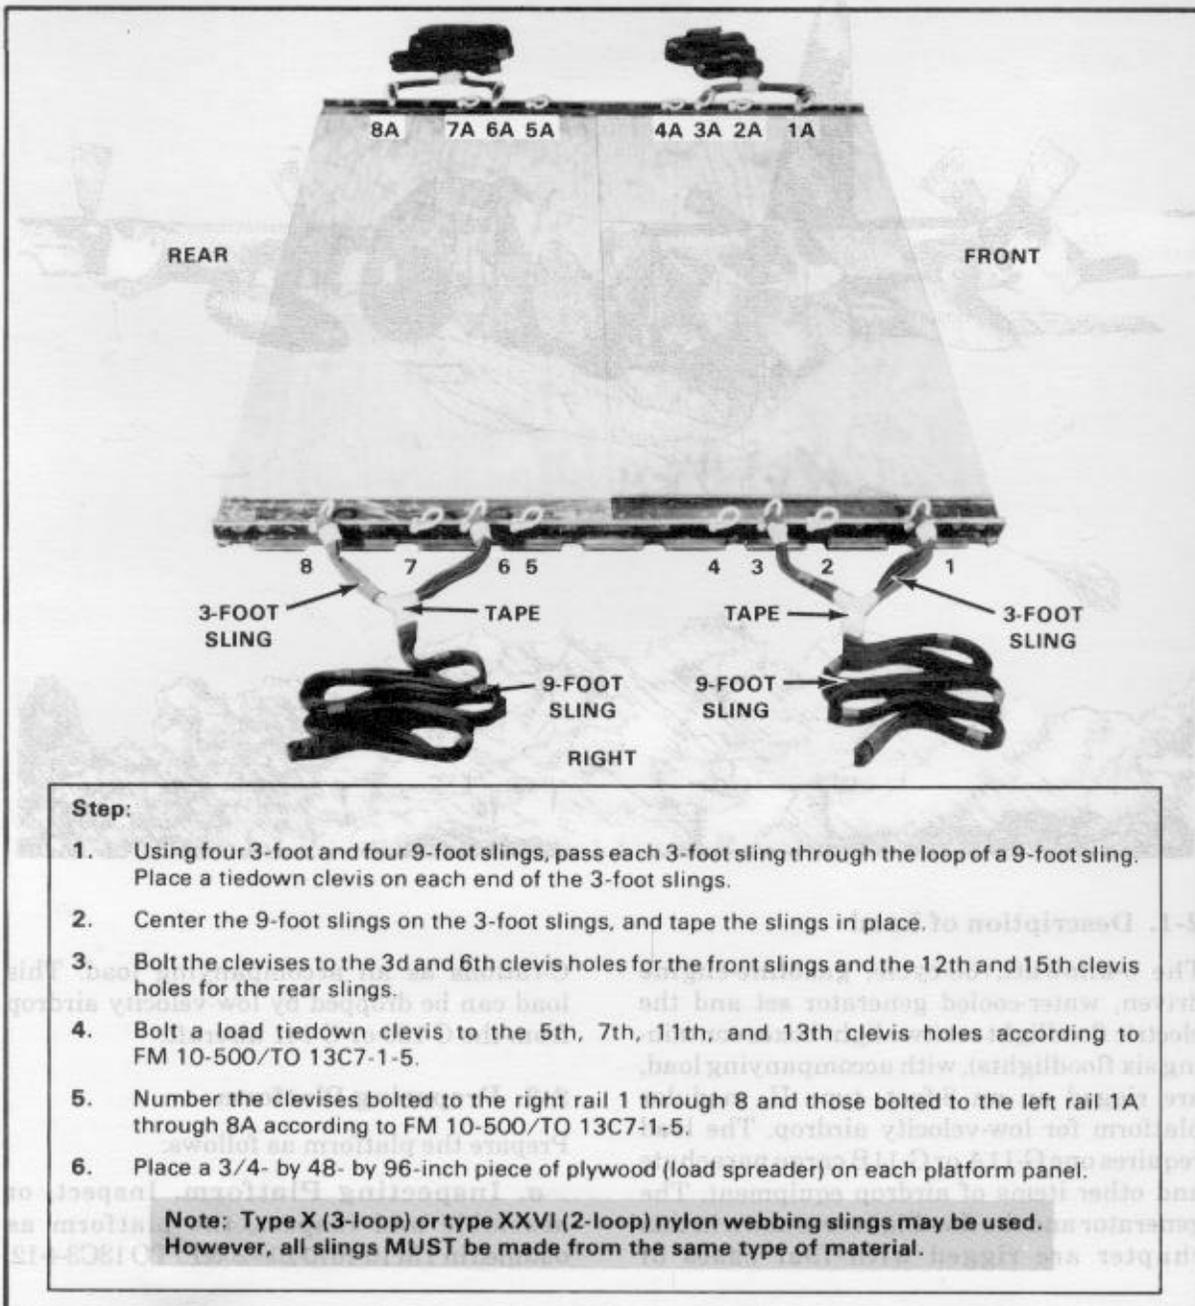

Figure 2-1. Platform prepared
**b. Attaching Suspension Slings.** Attach four 3-foot and four 9-foot slings to the platform as shown in Figure 2-1.
in Figure 2-1. Number the clevises as shown in Figure 2-1.
**d. Positioning Load Spreaders.** Position two plywood load spreaders on the platform as shown in Figure 2-1.